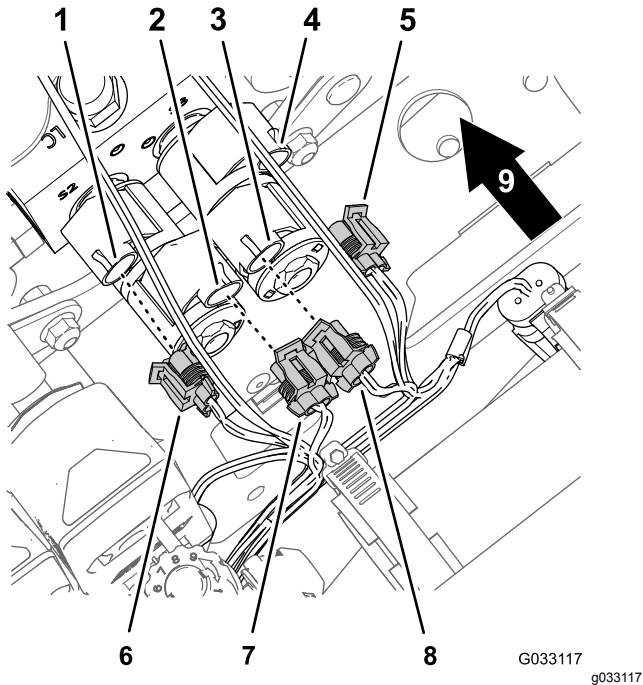

Figure 32
3. Disconnect the 2-socket connectors of the wire harness for the sonic boom finishing kit (Figure 32) from the 2-pin connectors of the solenoids of the lift-cylinder manifold as follows: